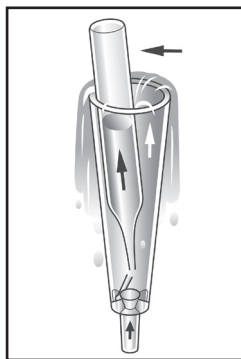

Figure 1
2. Place the ULR CHEMet ampoule, tip first, into the sampling tube. Snap the tip. The ampoule will fill leaving a bubble for mixing (fig. 1).